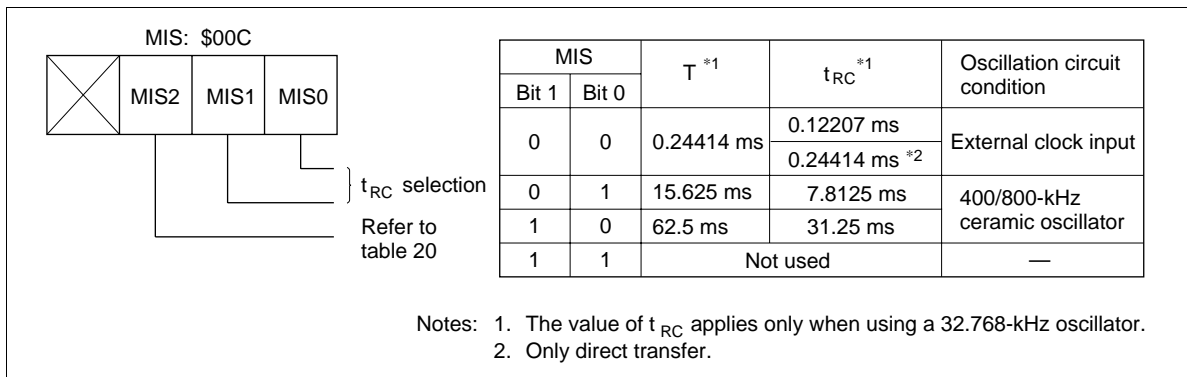

Figure 14 Miscellaneous Register
Interrupt Frame: In watch and subactive modes, \emptyset_{CLK} is supplied for timer A and the \overline{INT}_0 circuit. Prescaler W and timer A operate as time bases to generate interrupt frame timing. Three interrupt frame cycles (T) can be selected by the settings of the miscellaneous register, as shown in figure 14.